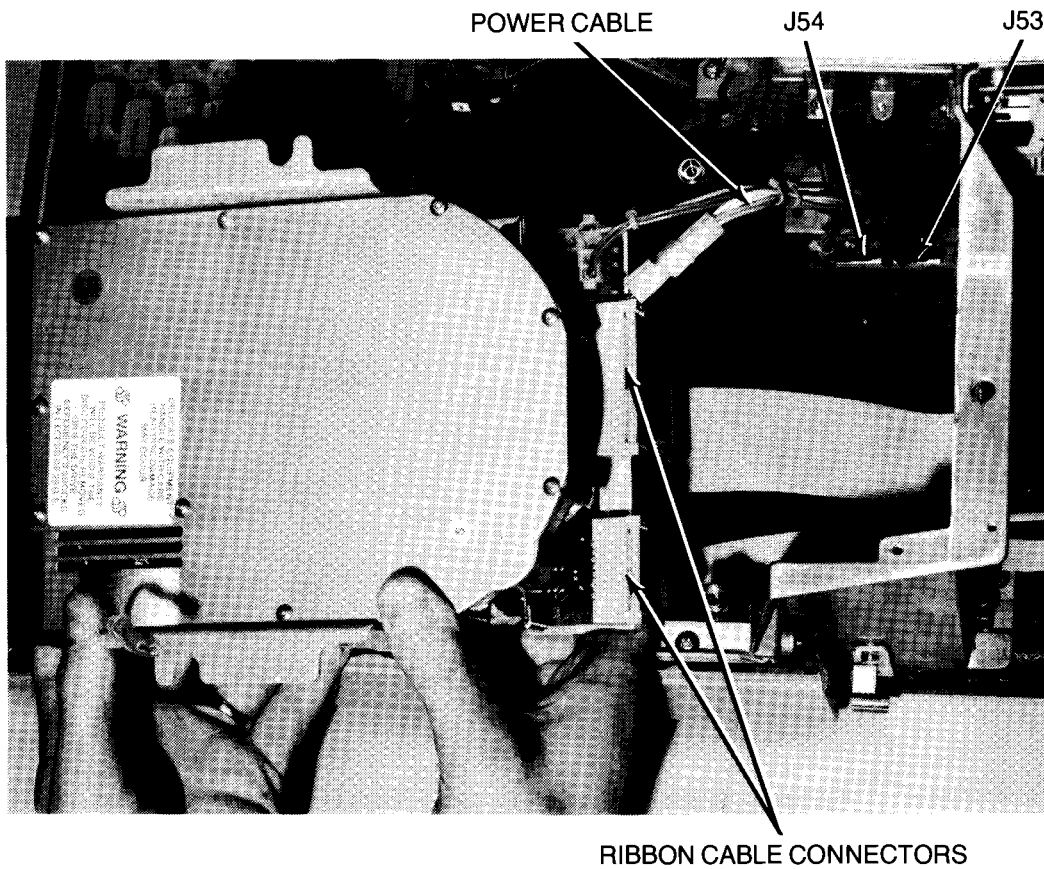

Figure 4
13. While holding disc drive in position, connect power cable to the unused motherboard connector J53 or J54, and connect both ribbon cables to the connectors at the rear of the drive (Figure 4).